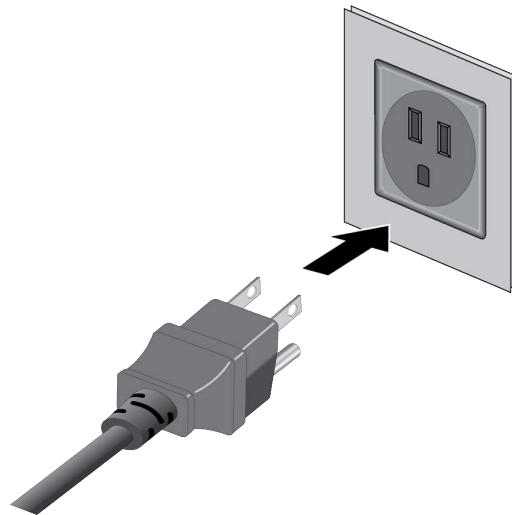

Figure 71. Connecting the Power Cord to an AC Power Source
2. Connect the power cord to an appropriate AC power source. Refer to Figure 71 on page 131.